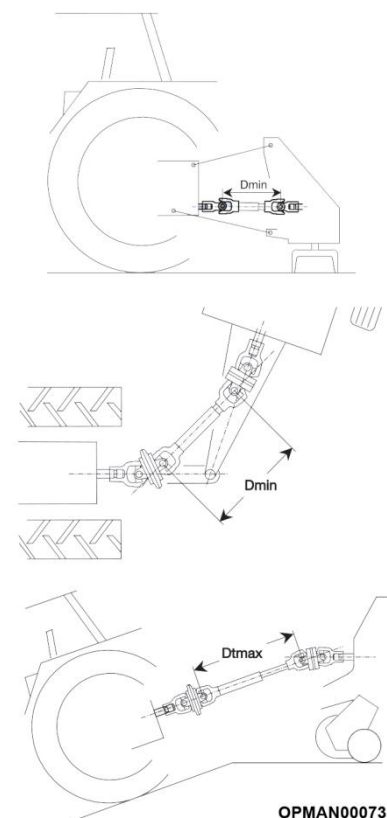

Figure 3.5 – Max/min Input Shaft Overlap
Place the tractor/machine in the position so the two halves of the shafts are at the minimum distance between the two ends; see Figure 3.5. At this point, verify any interference of the outer tube with the yoke inner tube and establish how much the outer tube needs to be shortened.
On trailed machines, the minimum distance "Dmin" (see Figure 3.5), occurs between the joints during steering. Verify that in the condition of maximum extension "Dmax", which generally occurs when the machine is aligned going steeply downslope, the coupling between the two tubes is still sufficient.
- 3.3.3.1 With the input PTO shaft attached, place the tractor and machine in the tightest corner possible, Dmax (see Figure 3.5).
- 3.3.4.6 Check the length of the driveshaft at the minimum and maximum positions of the machine. See Figure 3.5 for guidance on Dmin/Dmax lengths.